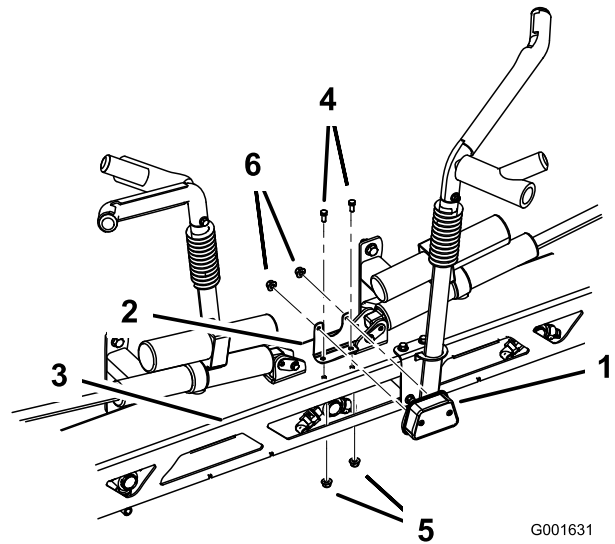

Figure 9
1. Install the tail light bracket to the center boom support with 2 bolts (5/16 x 3/4 inch) and 2 flange nuts (5/16 inch) (Figure 9).
2. Install the tail light to the tail light bracket with 2 nuts (1/4 inch) (Figure 9).